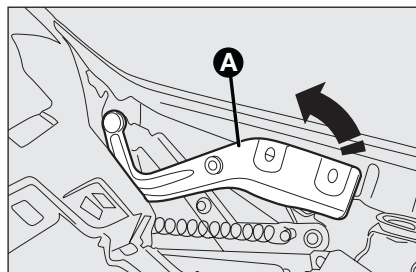

fig. 87
- ☐ lift the engine hood support lever **A**-fig. 87 and accompany it until it snaps into position.